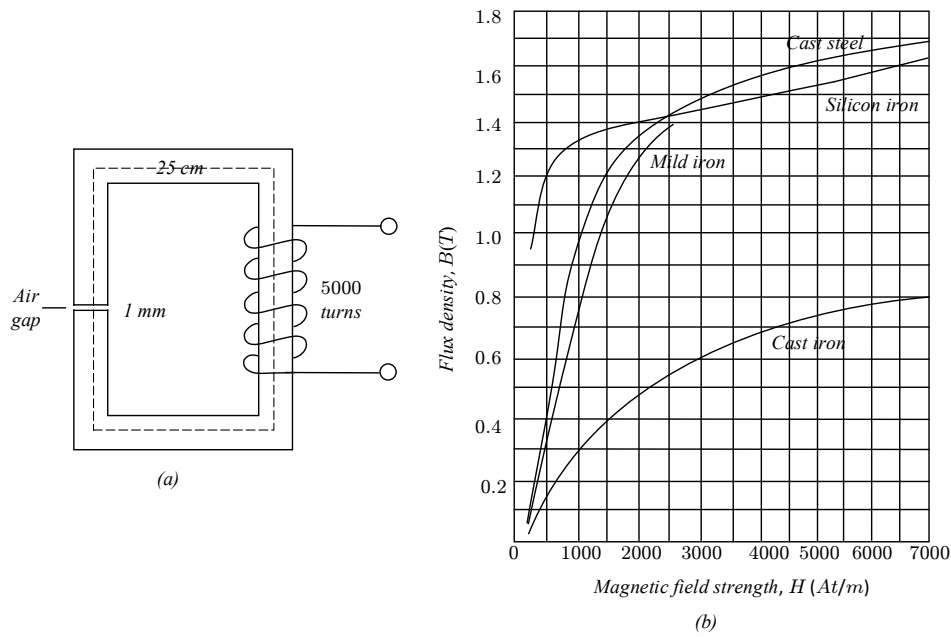

Figure 4 (a) Cross section of magnetic core, (b) B-H curves
3. A section through a magnetic circuit of uniform cross-sectional area 2 cm^2 is shown in Figure 4(a). The cast steel core has a mean length of 25 cm . The air gap is 1 mm wide, and the coil has 5000 turns. The $B - H$ curve for cast steel is shown in Figure 4(b). Determine the current in the coil to produce a flux density of 0.80 T in the air gap, assuming that all the flux passes through both parts of the magnetic circuit.